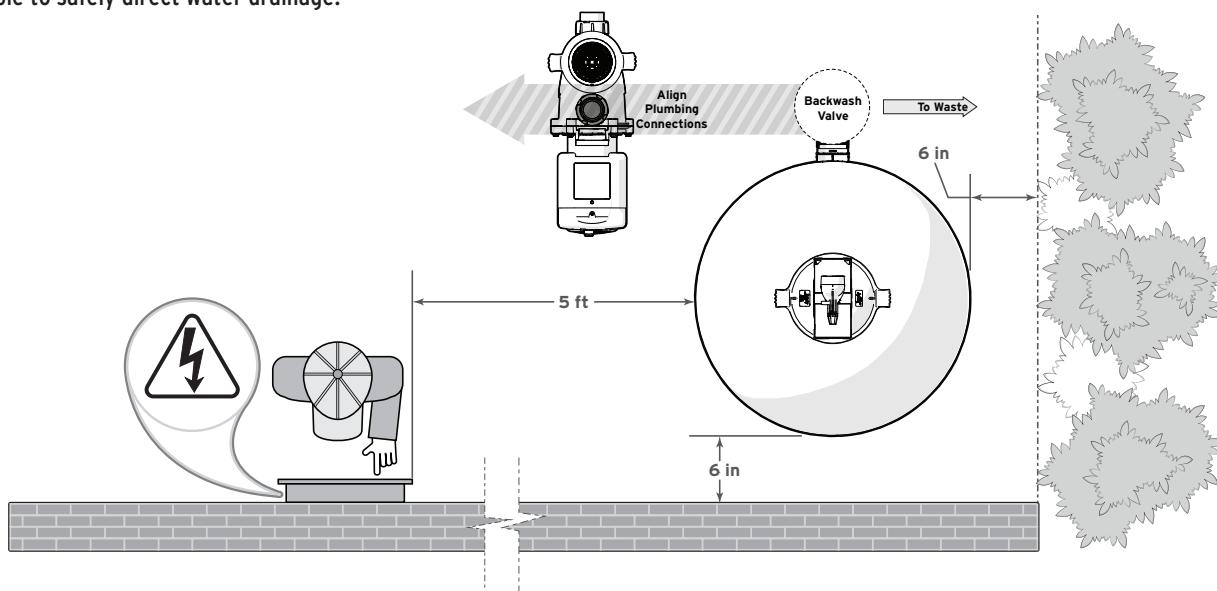

Figure 3. Filter Location Requirements
1. Place the filter on the concrete pad, lined up with the inlet/outlet pipes. See **Figure 3**.